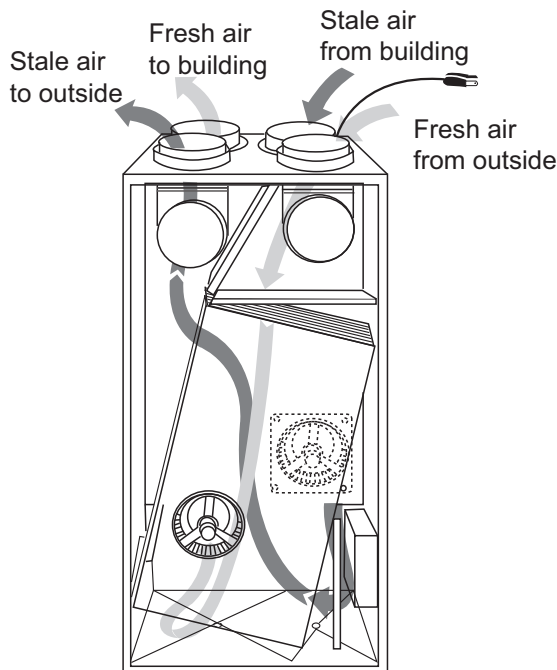

Fig. 2 - HRVXXLVU Airflow During Air Exchange
6. Heat recovery core is either a cross-flow type for compact models, or a counter-flow type for high-efficiency models. The core transfers heat between the 2 air streams. See Fig. 2.